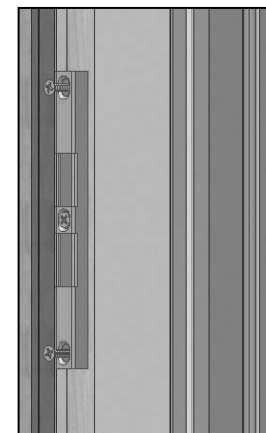

FIG. 21
- C) Sliding patio doors: After the operating panel and keeper are adjusted to the optimal position, apply the supplied #10 x 1-1/4" screws through the top and bottom holes of the keeper. Pre-drill the holes using a 1/8" bit prior to assembly. (Fig. 21)